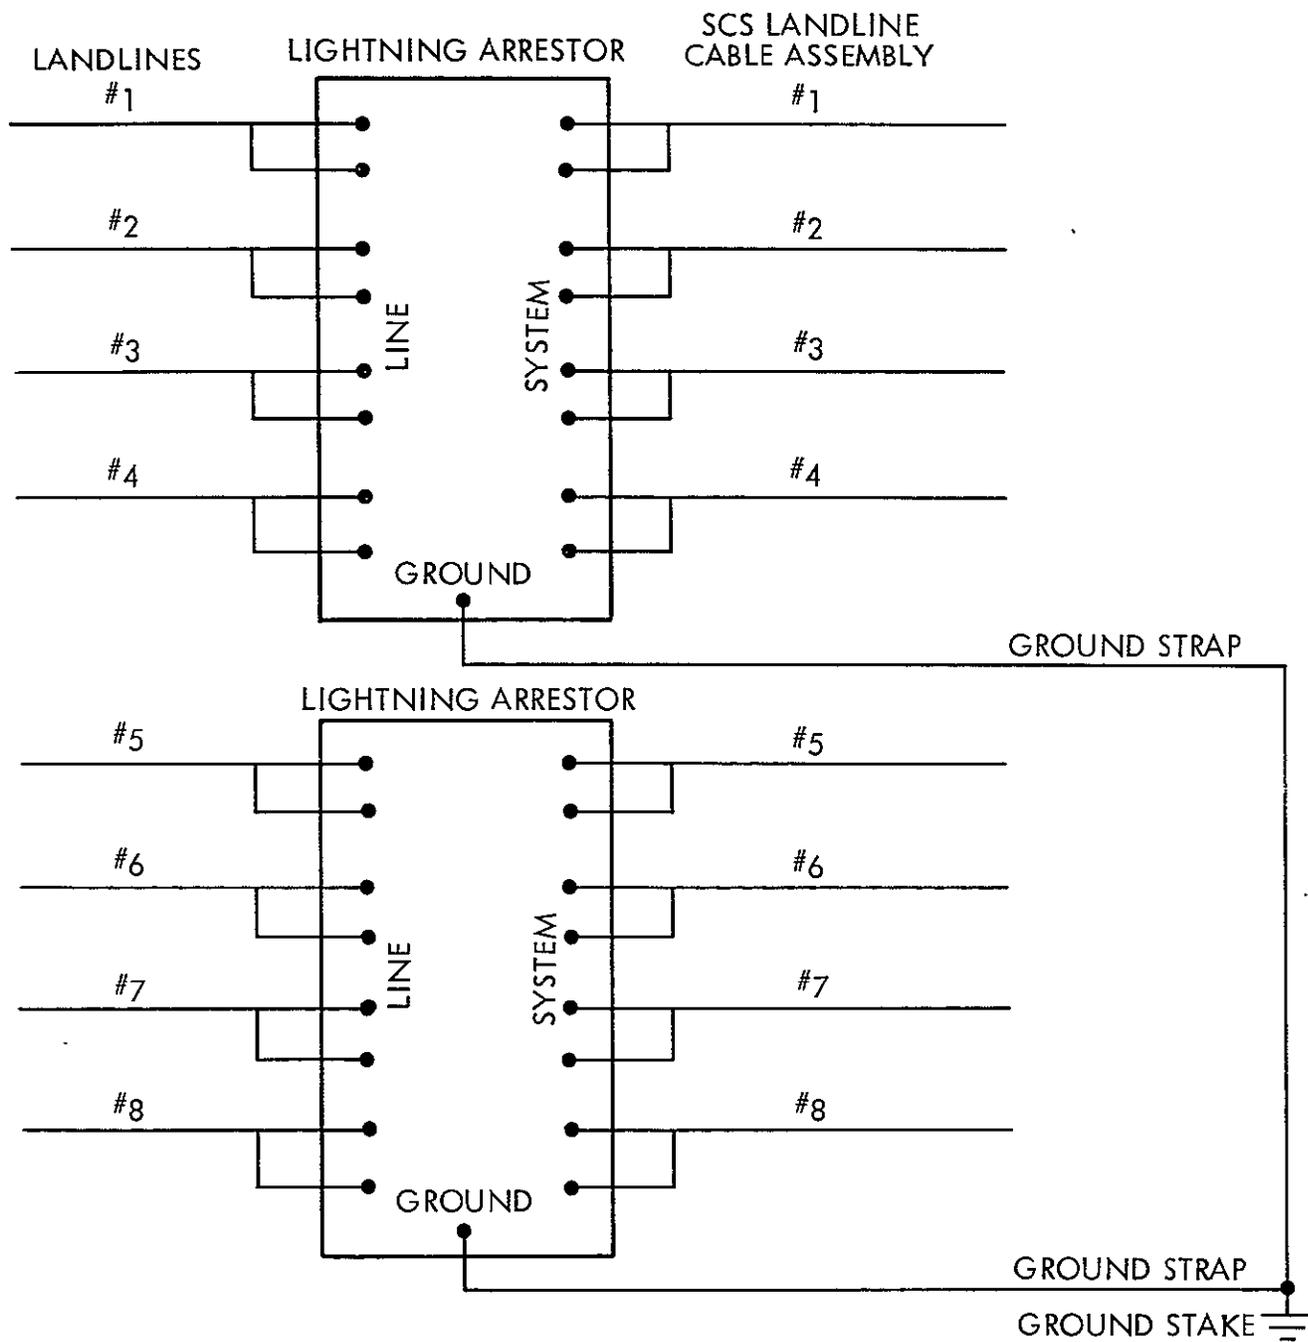

Fig. 6. Landline installation, SCS
- 1) Attach the 3-ft ground strap to the lightning arrestor ground stud and the SCS ground stake (Fig. 6).